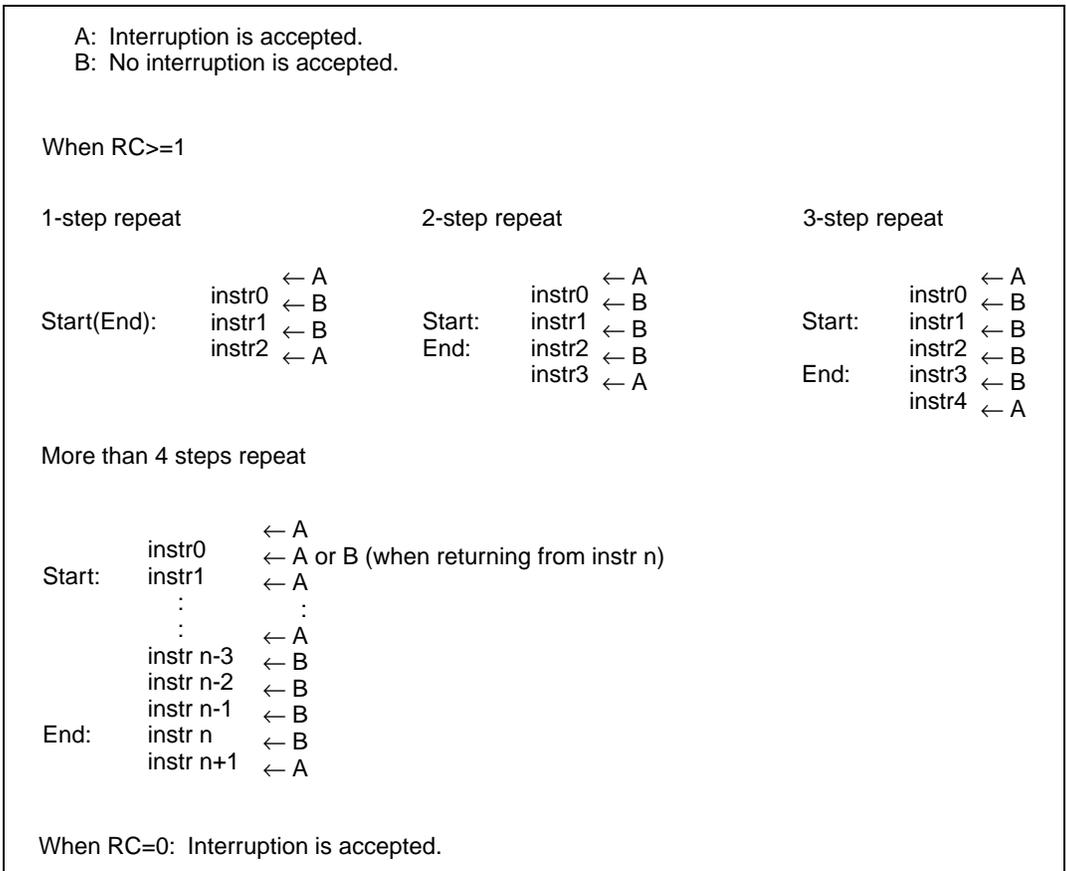

Figure 5.18 Restriction on Acceptance of Interruption by Repeat Module
The repeat start register (RS) holds the start address of the repeated section. The repeat end register (RE) holds the ending address of the repeated section. (There are some exceptions. Refer to Note 1, Actual programming, in this section [below figure 5.18].) The repeat counter (RC) holds the repeat count. The procedure for executing repeat control is shown below:
10. While the repeat is being executed, interruption is restricted. Figure 5.18 shows the flow for each stage of EX. The initial EX stage of interruption is usually started immediately after the EX stage of the instruction is completed (indicated by “A”). "B" in the figure below indicates locations where no interruption is accepted.